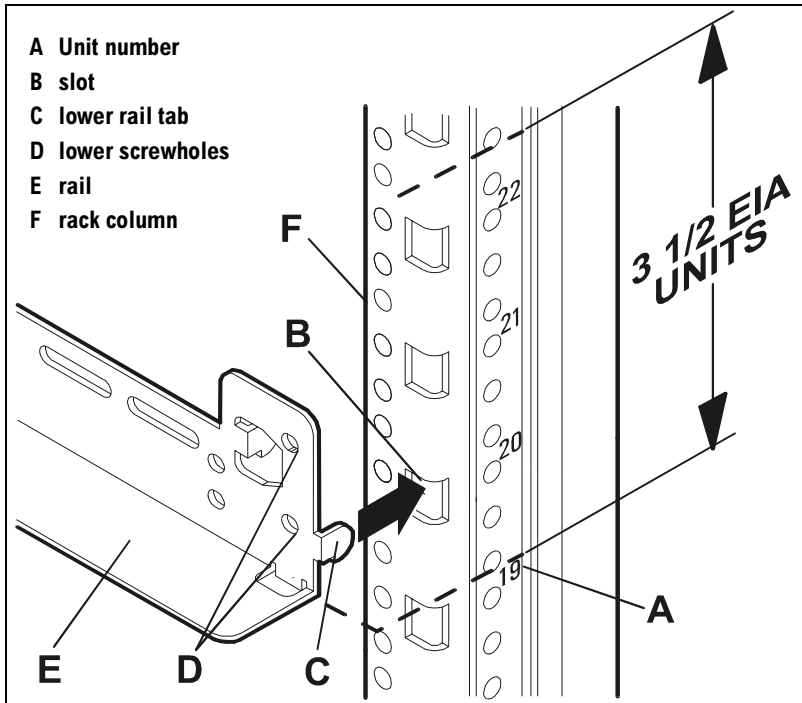

Figure 22 Unit Rail Position
- To leave a half EIA at the top, insert the *lower* rail tab (C in Figure 22) in the bottom EIA slot (B). This is the Unit position.